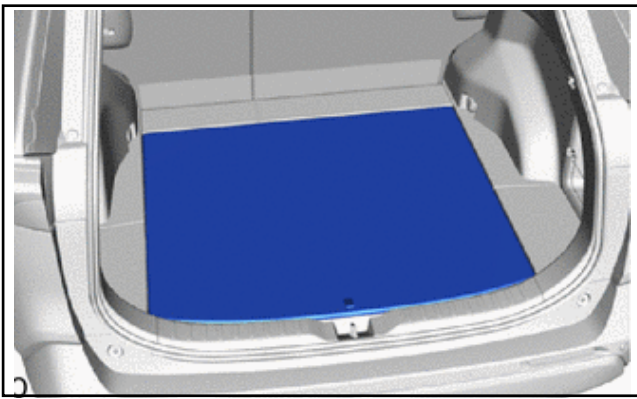

Figure 3-1
a. Remove the deck board assembly. See Figure 3-1.